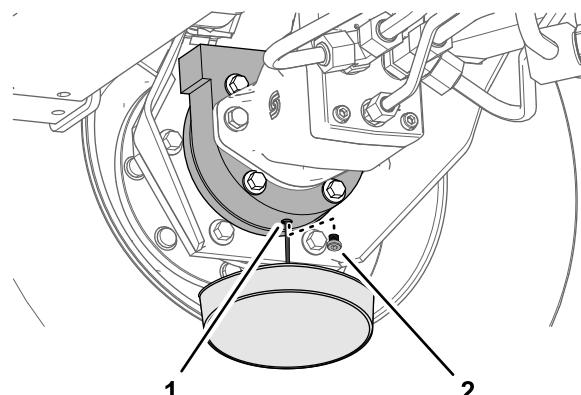

Figure 61
6. Place a drain pan under the brake housing, remove the drain plug, and allow the oil to fully drain (Figure 61).